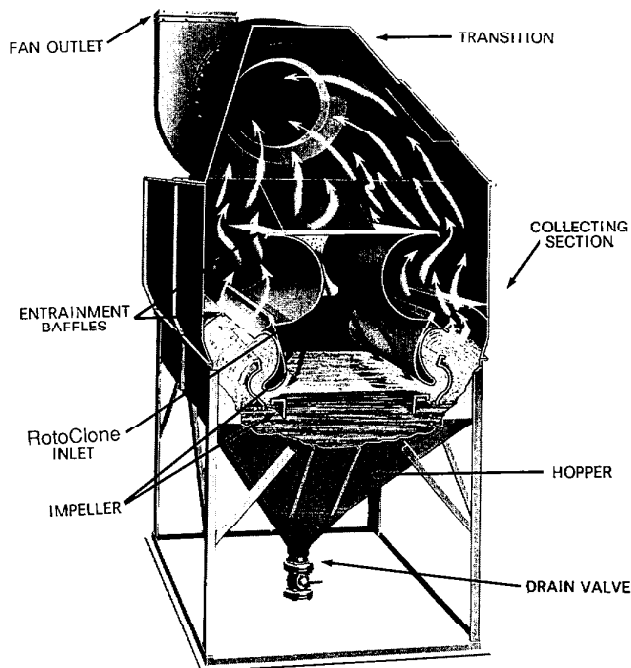

FIG. 3. Cutaway section of typical Type N RotoClone, Arrangement D, size 8 thru 20.
1. Be certain Drain Valve in RotoClone hopper (Figure 3 or 4) is closed.